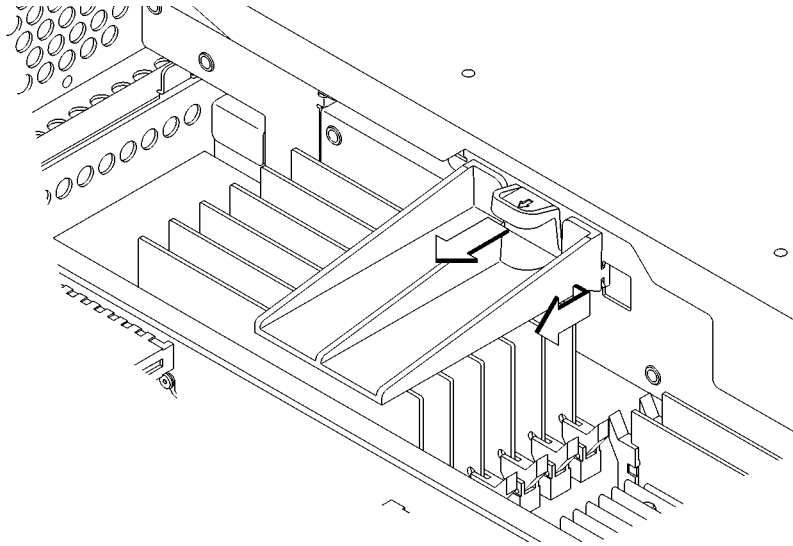

Figure 43 **Removing the Memory Retainer**
- 2 Pull the tab on the memory retainer and slide it toward the front of the main tray to remove it, as shown in Figure 43